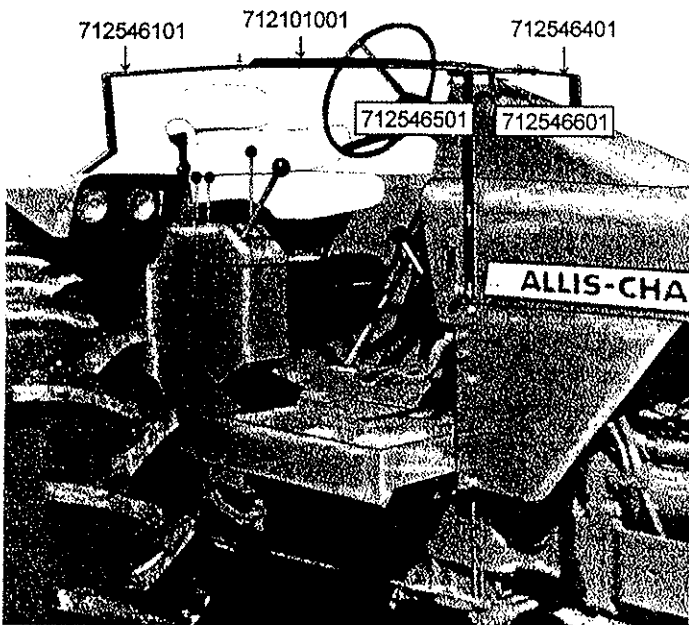

Figure 1
1. Bolt #712546401 mounting saddle to tractor using three 5/16" x 3/4" bolts for all places except left top hole where handle is bolted on. Use 5/16" x 1" bolt for handle. See Figures 1 and 2.
2. Bolt #712546501 mounting bracket to saddle using 5/16" x 3/4" bolts. Heads of bolts should be to top. See Fig. 1 & 2.
4. Insert #712101001 yoke in hem at top of cover and bolt yoke to side arm using 1/4" x 3/4" flat head bolts. See Fig. 1 & 2.
5. Bolt front of side arm to yoke using 3/8" x 1 1/2" bolt and back of side arm to fender of tractor using 5/16" x 3/4" bolt. See Figures 1 and 2.